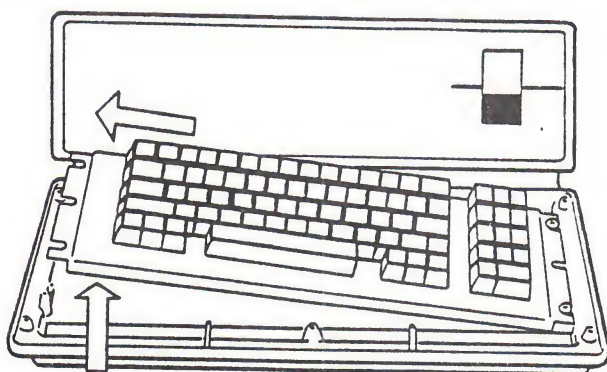

FIGURE 10
8. Remove the keyboard by lifting the left end and sliding the right end from under the loosened screws. (See Figure 10).